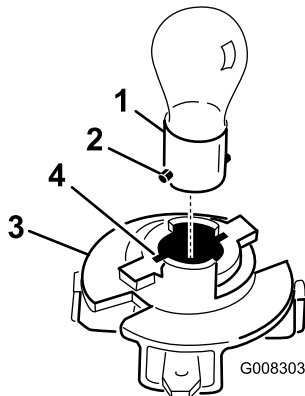

Figure 31
- Push and rotate the bulb counterclockwise about 1/4 turn until it stops and remove the bulb from the bulb holder (Figure 31).
- Align the metal pins on the base of the bulb with the slots in the bulb holder and insert the base into the holder (Figure 31).
- Align the tabs on the bulb holder (Figure 31) with the slots in the reflector.